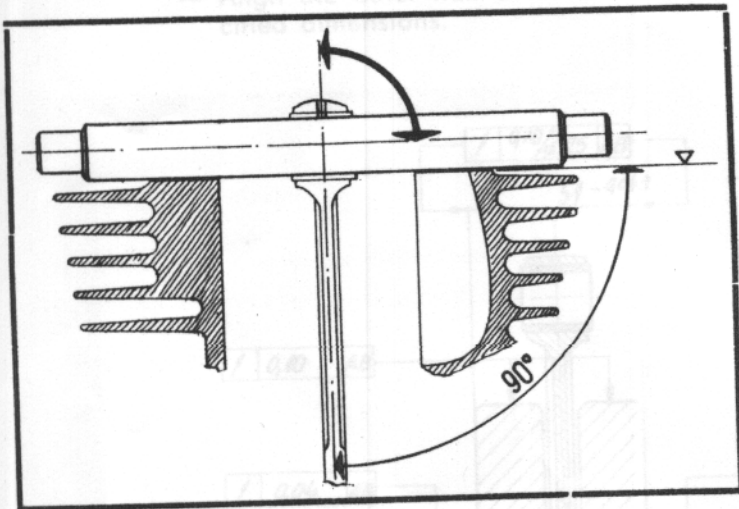

Fig. 25 - Alignment of the connecting rod
- check the connecting rod alignment with the fixture No. 06 (fig. 25)